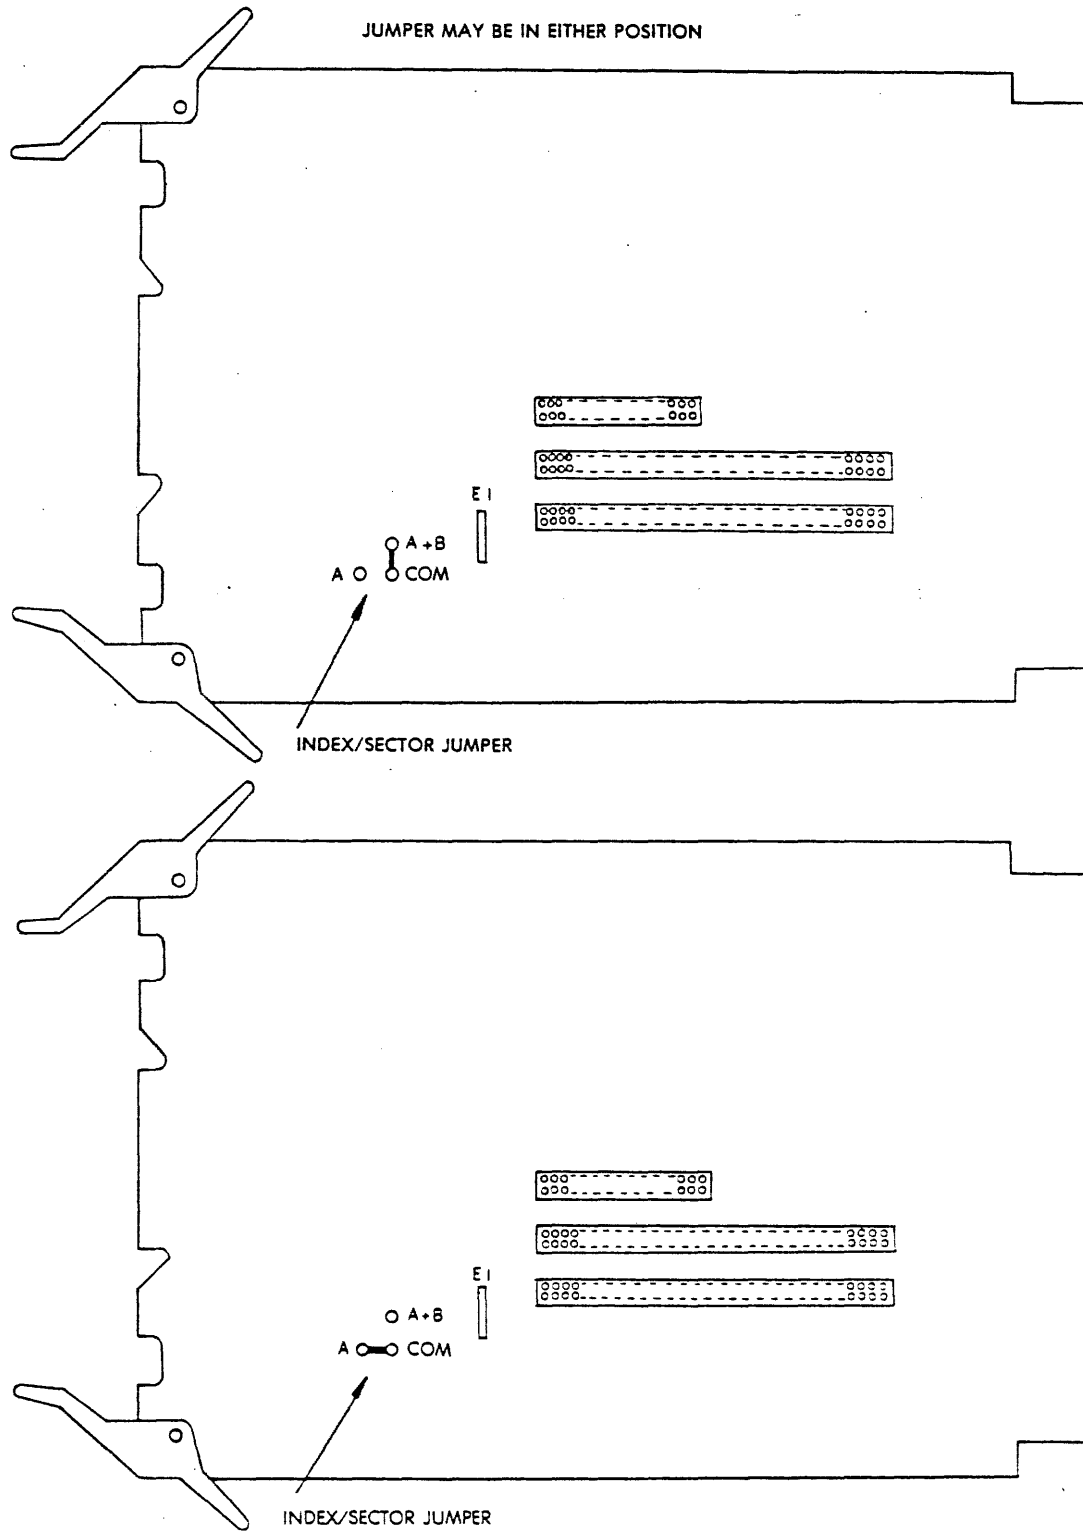

Figure 3-8. MFAX, WFAX, or AAFAX Card Jumpered for A-Cable Gated
- A-cable gated** This option is always available. The jumper plug on the MFAFAX card (slot A08) can be in either position (see Figure 3-8).